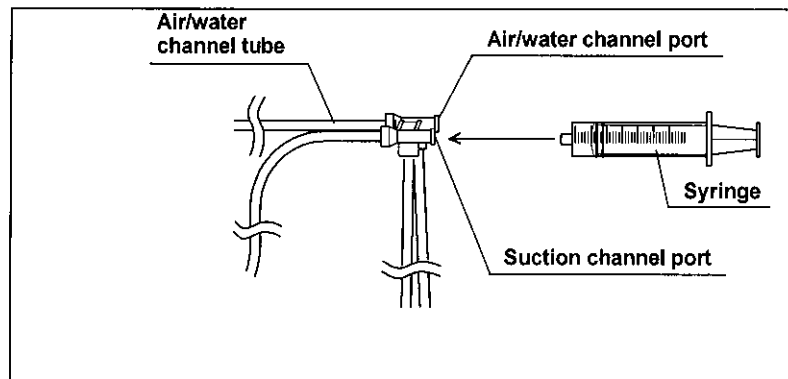

Figure 5.32
2. Attach a clean 30 ml syringe to the suction channel port of the injection tube and forcefully flush the suction channel with 180 ml of the disinfectant solution – i.e., by pumping the syringe at least six times. Confirm that no air bubbles exit the distal end of the endoscope's insertion section during the sixth flush. If air bubbles still exit, flush the channel with the disinfectant solution until no air bubbles exit. (See Figure 5.32).